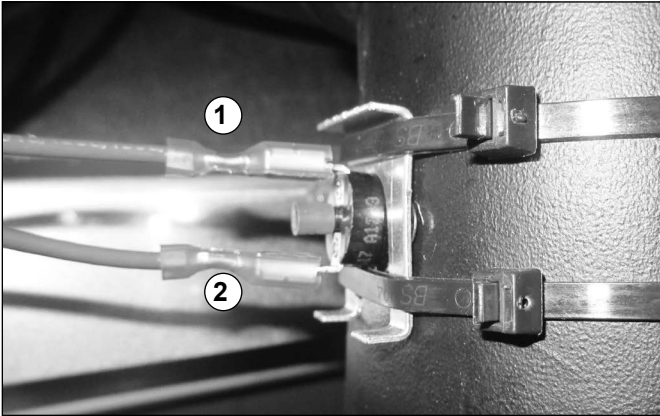

Figure 1. Disconnect wires from vent limit.
- Disconnect the two (2) wires at the vent limit (Figure 1).